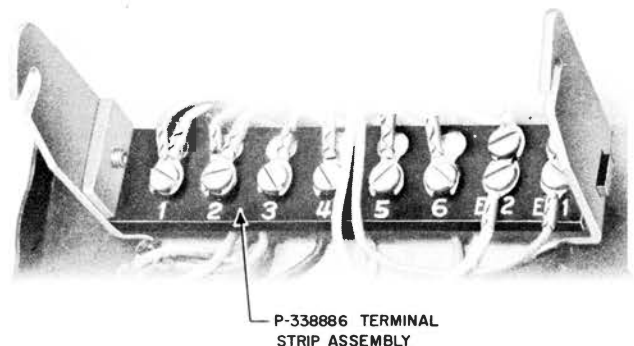

Fig. 7 — Terminal Strip
3.12 The 500LR/MR telephone sets are equipped with a 4-conductor mounting cord and terminal strip (Fig. 7). They are used at installations which require that ringing circuit be brought separately through the mounting cord. These sets may also be used with the 1A1 key telephone system.
- Terminal strip (see Fig. 7).